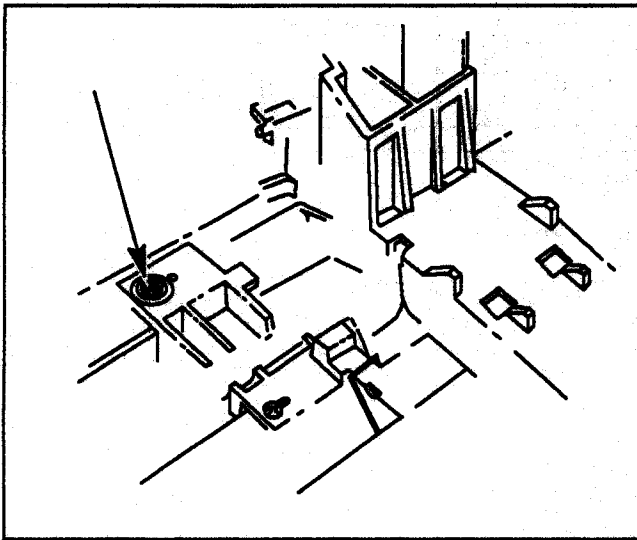

Figure 6-34. Right Chassis Removal
- m. Remove the Torx screw securing the right chassis to the datum bar. See Figure 6-34.